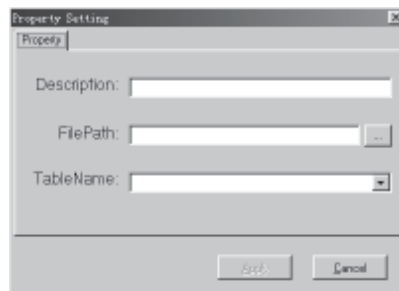

**Fig. 8-21 Select the Page Key-Design**
2. Design the Report: Select the page key **Design** and the listing table is empty, if opened for the first time, as in Fig. 8-21.
Referring to Fig. 8-21, enter the **name** describing the use of the report in the position of Description and the path and name of the report in the position of FilePath or click the **quick icon**  to open the dialogue block for selecting the files to be opened.